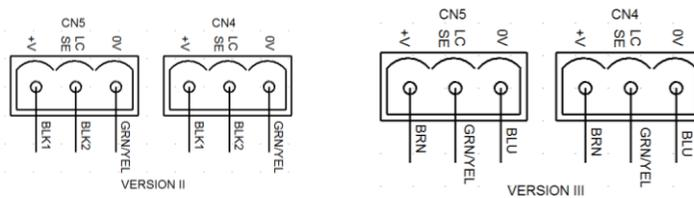

Figure 3- Formula Systems® Wiring
- CN4 and CN5 should be wired as shown in Figure 3- Formula Systems® Wiring